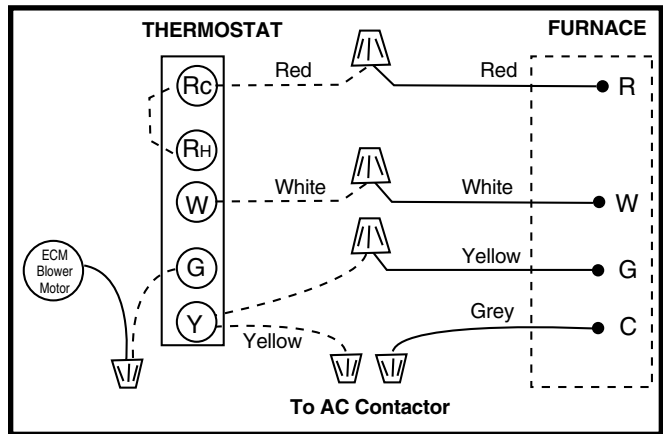

Figure 25. Thermostat Wiring
Proper line voltage polarity must be maintained in order for the control system to operate correctly. Verify the incoming neutral line is connected to the white wire and the incoming "hot" line is connected to the black wire. The furnace will not operate unless the polarity and ground are properly connected as shown in **Figure 25 (page 13)**.
2. Connect the thermostat wires to the furnace low voltage pigtails (dependent on the installation application). See Figure 25 \(page 13\). **NOTE:** If AC is installed with the furnace, a Y connection is required to be made at the furnace. See Figure 31 \(page 25\).